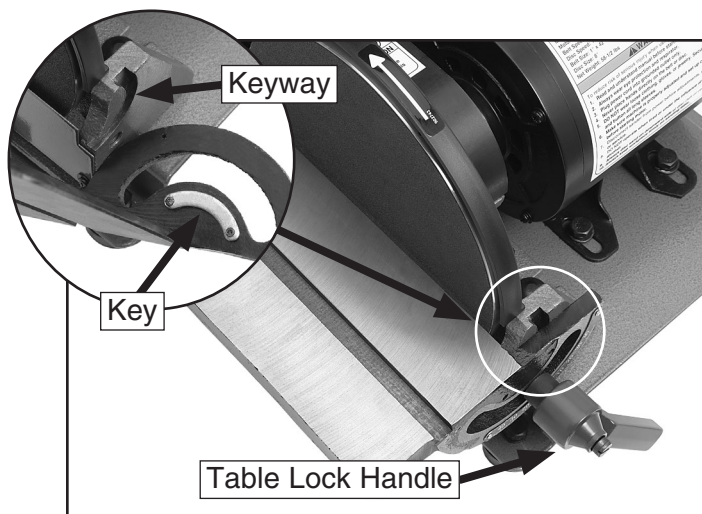

Figure 16. Sanding disc table installed.
16. Keeping the cardboard in place, align the half-arc key of the disc table with the indented keyway on the disc guard (see the inset of **Figure 16**). Then secure the table with a table lock handle, and remove the cardboard.